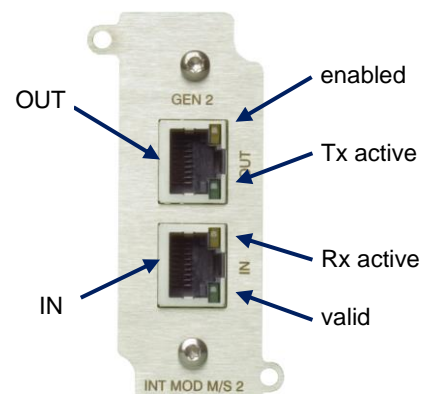

fig 4 - 5
- Then connect another cable from the "OUT" connector of the first slave to the "IN" connector of the next slave. Repeat this until all devices are connected (see fig 4 - 2).